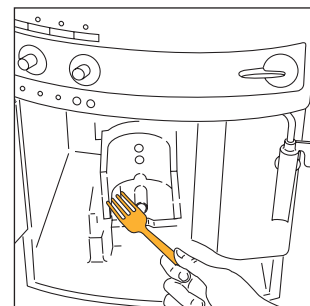

Fig. 30
- carefully clean the inside of the machine. To remove the coffee stuck to the parts inside the machine, scrape it with a plastic or wooden fork (Fig. 30) and then pick up all the residues using a vacuum cleaner (Fig. 31);